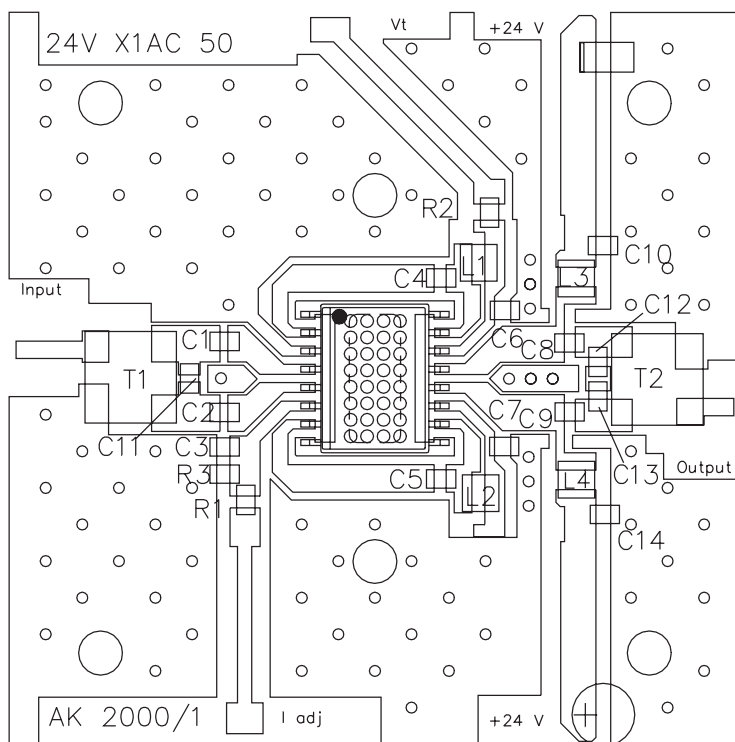

Figure 13: Evaluation Board Layout
(1) Measured with baluns on the input and output of the device.
(2) Parts measured with 77 channels, +56 dBmV power, 13.5 dB tilt at 870 MHz.
(3) Parts measured with 110 channels, +52 dBmV power, 13.5 dB tilt at 870 MHz.
(4) 79 analog channels plus QAM, +55 dBmV, 15.6 dB tilt at 1 GHz.
(5) 112 analog channels plus QAM, +51 dBmV, 15.6 dB tilt at 1 GHz.
(6) QAM is set 6 dB below analog carrier.
7. All specifications as measured on Evaluation Board (see Figures 13 & 14).